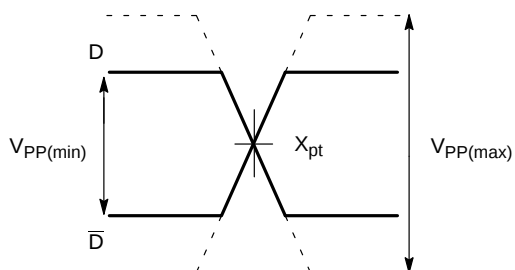

Figure 12. Differential Input Voltage Swing
**Input Voltage Swing** – The minimum input voltage swing ( $V_{PPmin}$ ) is found by decreasing the swing between the true and inverted inputs until the device no longer performs its specified function. The maximum input voltage swing ( $V_{PPmax}$ ) is determined by the internal circuitry of a specific device. The differential input voltage swing is defined by the following equations and Figure 12.